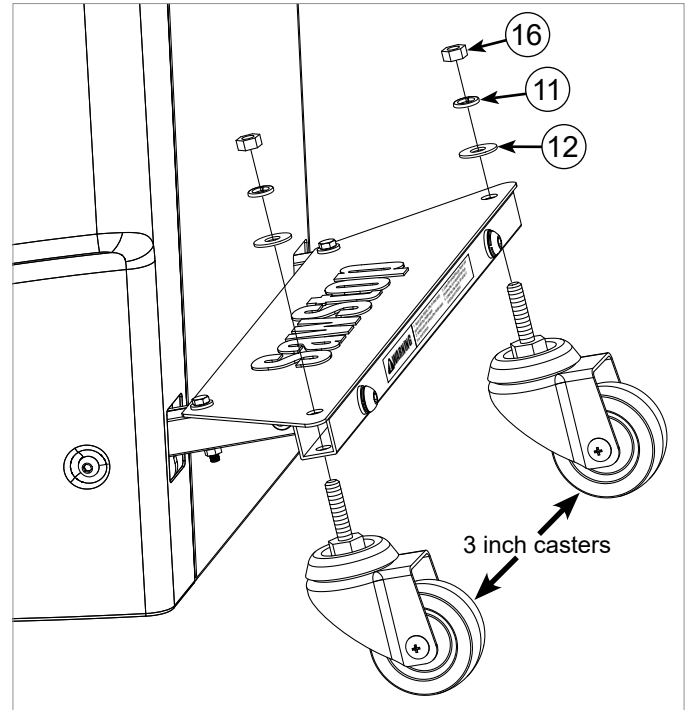

Fig. 40
22. Mount the two 3 inch casters to the outer corners of the support plate by inserting the threaded shaft on each caster up through the corresponding holes in the caster extension bar and support plate. Secure the casters in place with two M10.5 x 20 washers, two M10.5 x 17 lock washers, and two caster nuts, as shown in Fig. 40. Fully tighten the caster nuts with a 14 mm wrench.